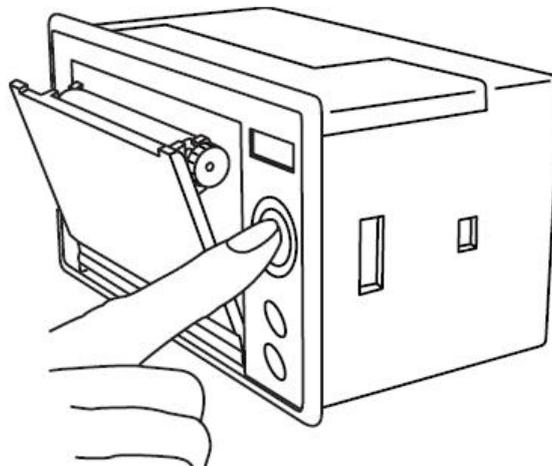

Figure 6.1 Open the printer cover
(1) Press the round button, open the printer cover, take out the scroll, as Figure 6.1.